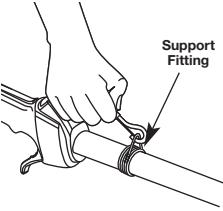

Fig. 5
- Put the harness on over head and onto shoulder. Snap it on to the support fitting (Fig. 5).